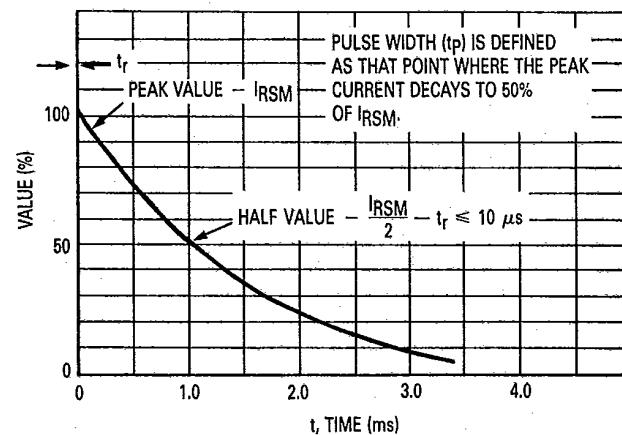

Figure 2. Pulse Waveform
- I_{PP}** Peak Pulse Current — See Figure 2